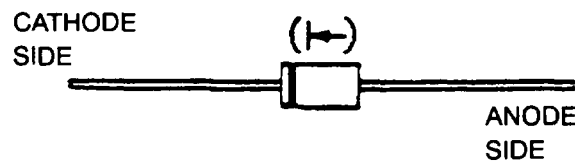

Figure 2-12. Diode Identification
- g. Connect positive lead of multimeter to cathode side and negative lead to anode side of each diode CR1 and CR2. Note ohms indication on multimeter for each diode. Refer to Figure 2-12.